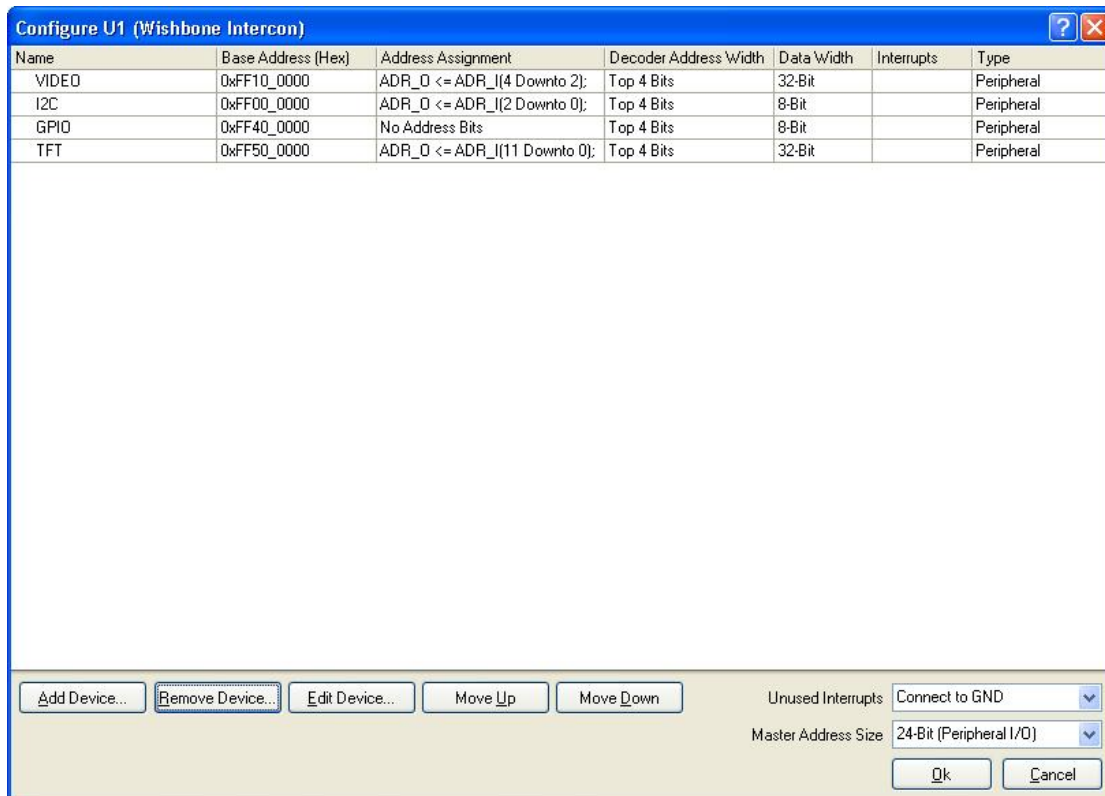

Figure 10. Wishbone interconnect component interfaces
4. Referencing Figure 10, configure the following Slave Interfaces.